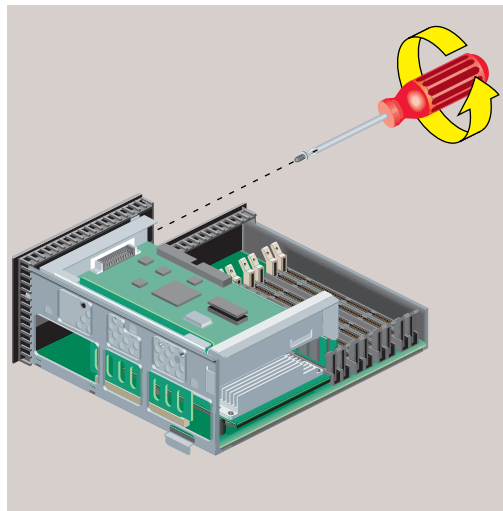

Figure 2-25 Securing the PCI Board
4. Insert and tighten the screw that secures the PCI board (Figure 2-25).